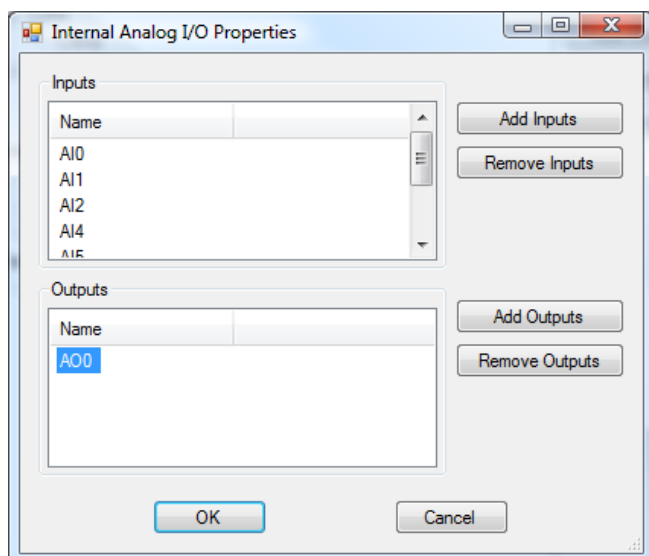

Figure 2-9 - AO0 Installed in Analog I/O
5. The Analog Output AO0 is now shown in the outputs pane. Refer to Figure 2-9. Click **OK** to close the *Internal Analog I/O Properties*. Click **OK** to close the *ICM-BB-P13-XX Properties*.